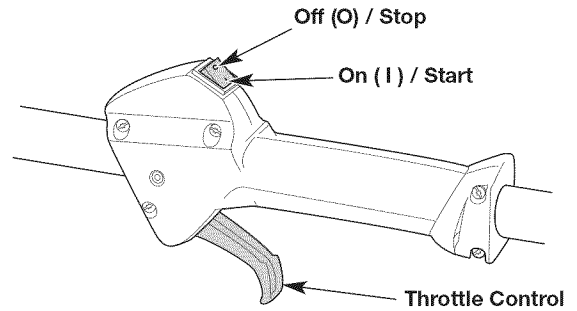
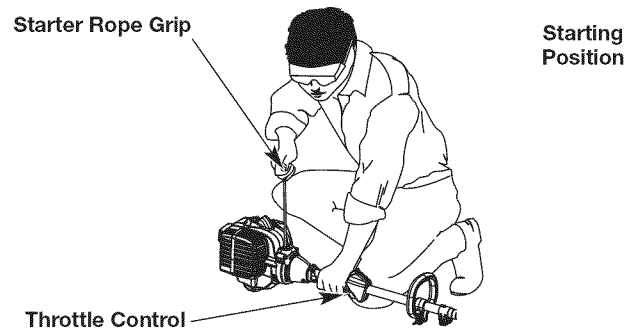

Fig. 6
Fig. 9
**WARNING:** Avoid accidentally starting the unit. To avoid serious injury, the operator and the unit must be in a stable position when pulling the starter rope (Fig. 9).
**NOTE:** There is no need to turn the unit on. The On/Off switch is in the ON ( I ) position at all times (Fig. 6).
5. Crouch in the starting position (Fig. 9).
6. **DO NOT** squeeze the throttle control (Fig. 6). Pull the starter rope with a controlled and steady motion until the unit starts (Fig. 9).
2. Press and hold the On/Off switch in the OFF (O) position until the engine comes to a complete stop (Fig. 6).
6. **DO NOT** squeeze the throttle control (Fig. 6). Insert the Speed Start™ accessory into the Speed Start™ port (Fig. 19). Refer to the *Operation* section of the Speed Start™ accessory operator's manual.